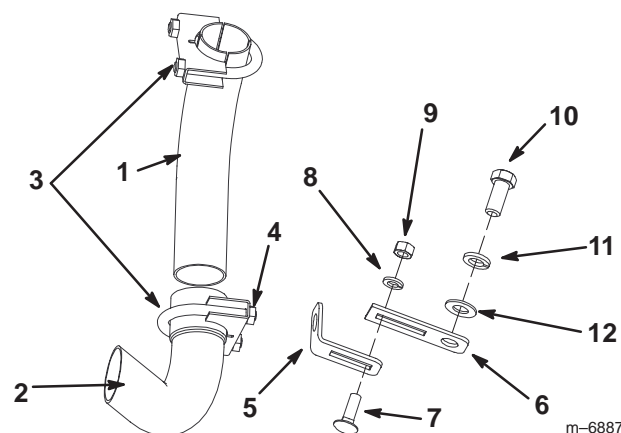

Figure 1
1. If the clamps are not already on the exhaust pipes, install them loosely over the pipes as shown in Figure 1.
2. Remove the upper nut from the clamp on the lower pipe (Fig. 1).
3. Install the bracket over the end of the clamp U-bolt and secure it with the nut removed previously (Fig. 1).
4. Loosely install the bracket extension to the bracket using a carriage bolt, small lock washer, and nut (Fig. 1).
5. Loosely install the upper pipe into the lower pipe (Fig. 1).
7. Loosely secure the bracket extension to the threaded hole in the front of the engine using a bolt, large lock washer, and washer (Fig. 1).
9. Tighten the nuts on the 2 pipe clamps and other fasteners to secure the pipe and brackets into place (Fig. 1).